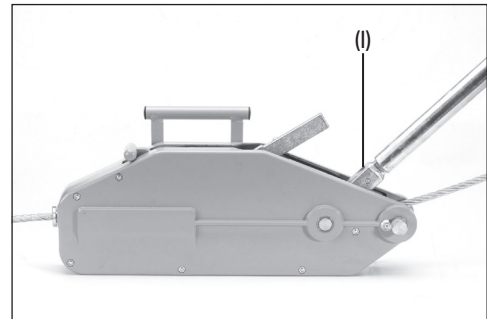

Fig. 5
6.3 Pulling/Lifting A Load (fig.5)
- **Forward operation** – fit the extendable handle to (I). Move the handle back and forth to pull the wire rope through the Puller.